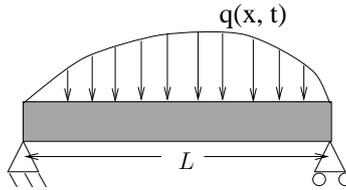

Figure 2: Beam subjected to a distributed load $q(x, t)$.
3. The governing equation for a beam of length L subjected to a distributed (40) load per unit length $q(x, t)$ as shown in Fig. 2 is given by
- (a) Starting from the beam equation given by Eqn. (2), derive conservation laws analogous to linear momentum and energy assuming traction-free conditions on the entire beam structure. *All your operations should be with Eqn. (2) as a starting point, i.e., do not use terms such as $\int_V \rho \mathbf{v} dV$ etc. as we did in class; an equation analogous to angular momentum conservation can also be derived, but we will keep the exam simple by ignoring that :-).* (Hint: Multiply Eqn. (2) with the appropriate velocity for deriving energy conservation).
- (b) Develop the variational formulation corresponding to Eqn. (2) for the problem shown in Fig. 2.
- (e) Show how you will incorporate the boundary conditions for the problem in Fig. 2. Take the entries of \mathbf{K} as K_{11} , K_{12} etc. without presenting expressions for them.
- (f) For the problem shown in Fig. 2, imagine $q(x, t)$ is suddenly set to zero at some time T , but with the supports still there. Is the (a) linear momentum (b) total energy, that you derived in part (a) above conserved (both for the continuum and finite element approximations) from time T onwards? Justify your answers.